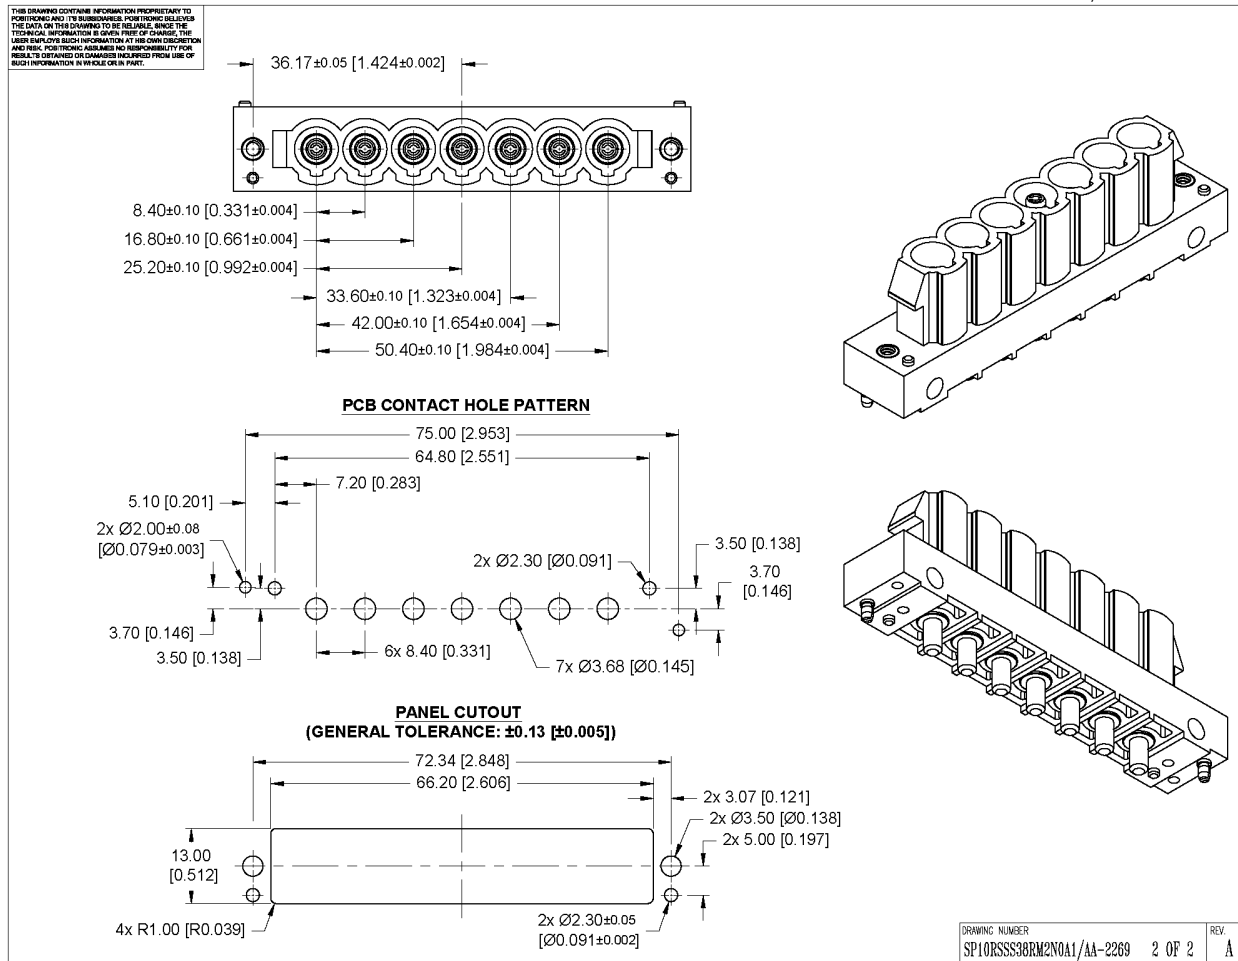

Figure 5.17 SP10RSSS38RM2N0A1/AA-2269
- For Left connector, refer to Figure 5.17 (SP10RSSS38RM2N0A1/AA-2269)